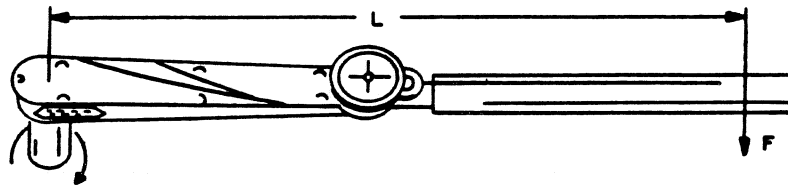

Figure 5.20. Adaptor Attached to Handle End of Wrench
10. This handle extension does not affect the dial reading although it does increase the torque. No correction is necessary because factor "E" is not changed. (See Figure 5.20.)